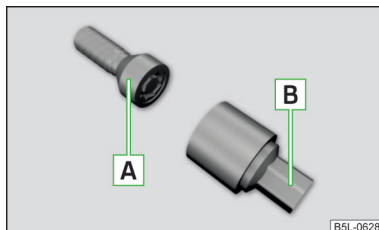

Fig. 199
- Insert the adapter [B] » Fig. 199 with its toothed side fully into the inner toothing of the anti-theft wheel bolt [A] until the stop so that only the outer hexagon is jutting out.